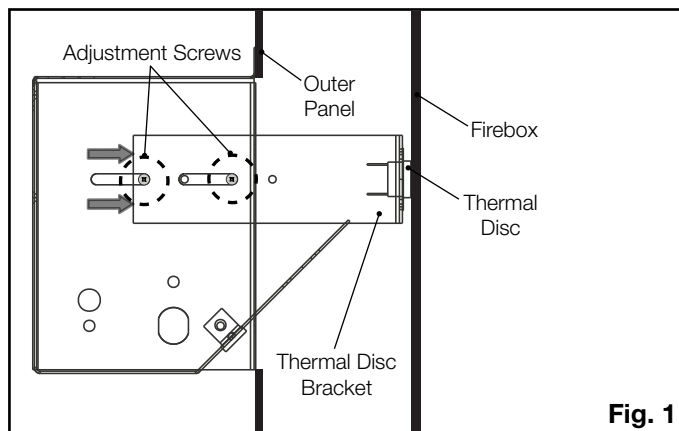

Fig. 1
1. Ensure the thermal disc bracket is in the correct position (**Fig. 1**).
5. Reach between the outer panel and the firebox, then slide the thermal disc bracket until the thermal disc is touching the rear of the firebox (**Fig. 1**).